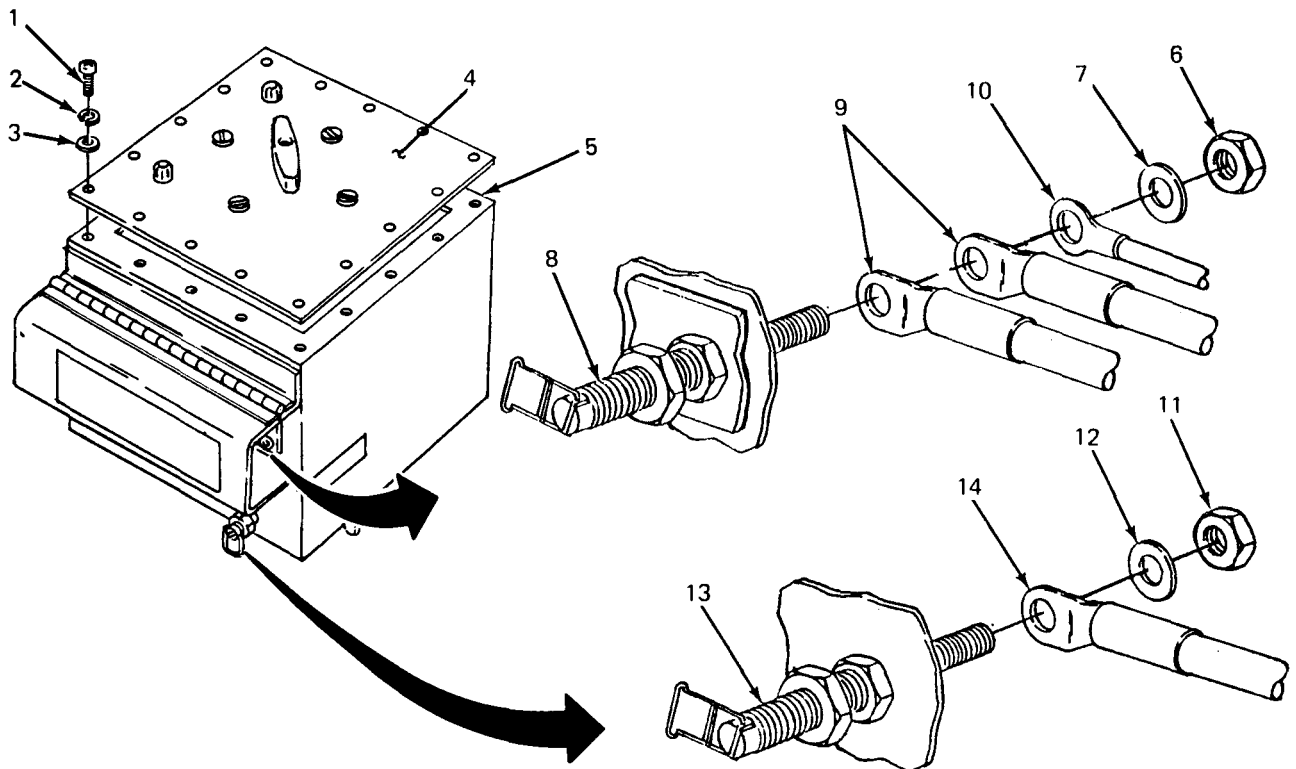

Figure 4-14. Ground Wire Replacement.
- (e) Position each of three wires (9) (black, red and blue) against underside of its respective switch terminal (10). Insert screw (6) up through wire terminal and switch terminal. Install star washer (8) and nut (7) on screw and tighten against switch terminal. Where an indicator light wire is also mounted to the switch terminal, the indicator light wire shall be positioned against the underside of the switch terminal and the power cable wire shall be positioned against the indicator light wire.
- (f) Position cover (4) on switch box (5) and secure with 16 screws (1), 6 lockwashers (2) and 16 flat washers (3).
e. Ground Wire Replacement (5-Wire Switch Box). (See figure 4-14.) In the 5-wire switch box only, a wire connects load terminal L0 to AC GROUND terminal E2 located on the side of the switch box below the terminal board.
- (a) Remove 16 screws (1), 16 lockwashers (2) and 16 flat washers (3) securing cover (4) to switch box (5) and take cover off switch box.